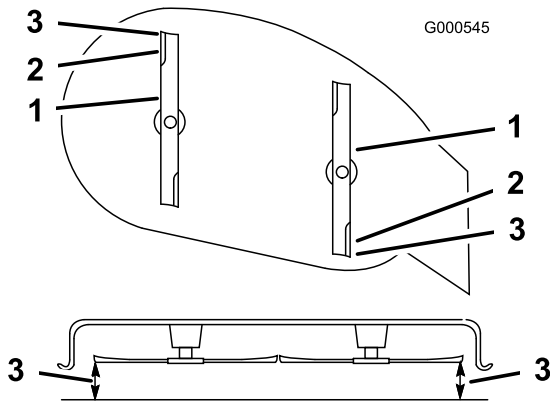

Figure 41
6. Measure from the top of the front blade to the flat surface and the tip of the rear blade to the flat surface (Figure 41). If the front blade tip is not 0 to 6 mm (0 to 1/4 inch) lower than the rear blade tip, adjust the front locknut.
Note: Continue adjusting the nut until the front blade tip is 0 to 6 mm (0 to 1/4 inch) lower than the rear blade tip (Figure 41).